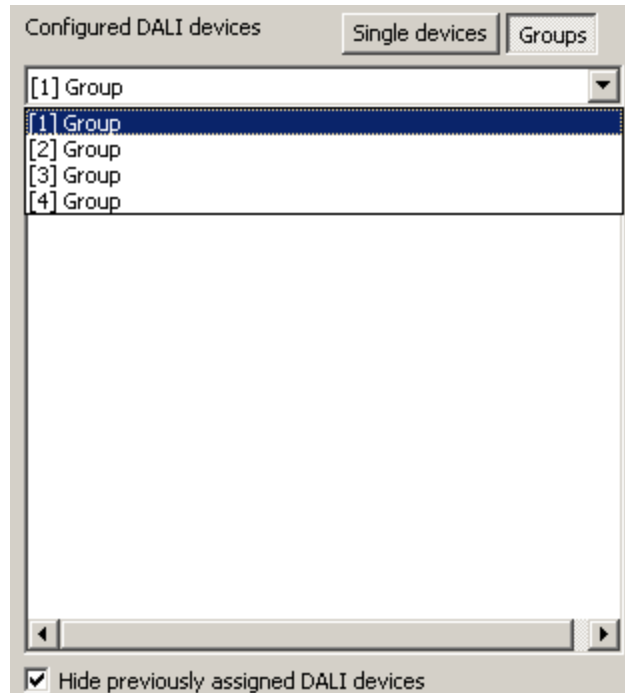

Figure 64: Selecting a group
- In the left-hand section of the DALI commissioning environment, select the required group to which the operating devices are to be added (Figure 64).